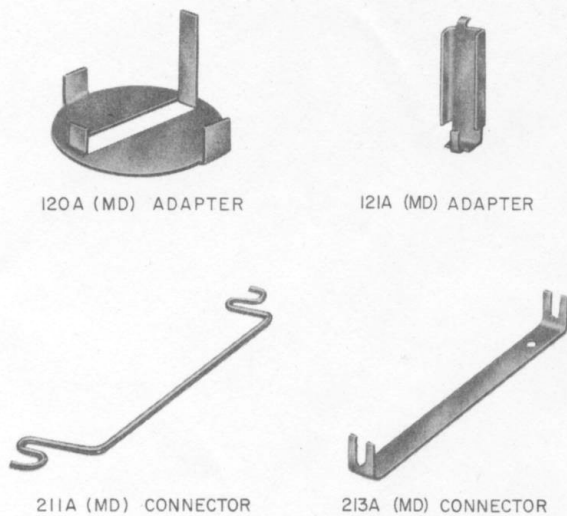

Fig. 48—Adapters and Connectors
16.01 The following adapters and connectors (Fig. 48) are used in converting protectors:
- (a) The 120A adapter and 211A connector are rated MD but may be used, if available, from existing stocks. They may not be used to convert 98A (MD) protectors manufactured prior to 1939 because the 120A (MD) adapter will not fit over the larger ground electrode employed in these earlier protectors.
- (b) The 121A (MD) adapter and 213A (MD) connector may be used, if available, to convert all 98A (MD) protectors.